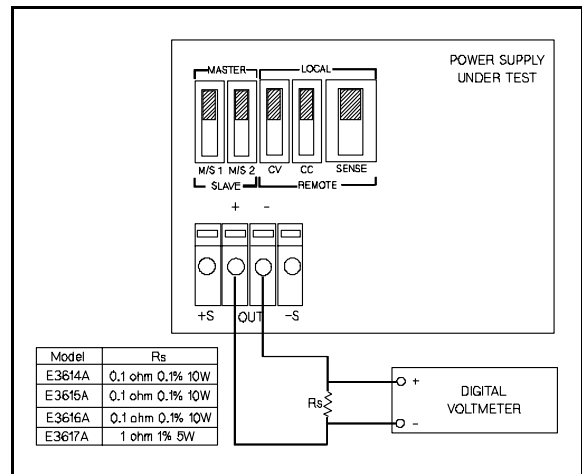

Figure A-9. Calibration Test Setup
- a. Connect test setup on Figure A-9.
- a. Disconnect Rs from test setup on Figure A-9 and connect DVM across output terminal of the supply.